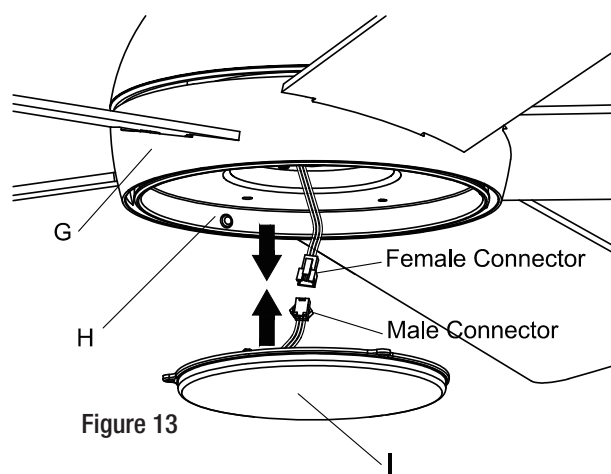
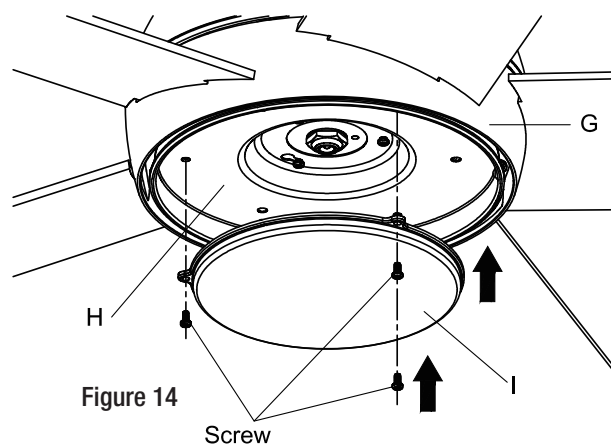

Figure 13
Figure 14
- Connect the male connector from the LED module (I) to the female connector from the fan-motor assembly (G). Figure 13.
- Locate 3pcs screw holes of LED module (I) in line with the screw holes of lightkit pan (H).
- Reattach 3pcs screws through the screw holes of LED module (I). Figure 14.
- Tighten the screws until LED module (I) is secure.